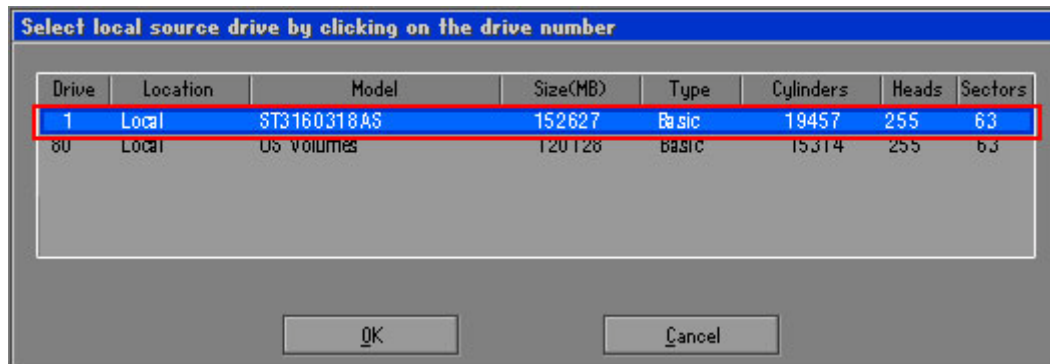

Figure B-14: Select a Local Source Drive
Step 5: Select the local source drive (Drive 1) as shown in Figure B-14. Then click OK.